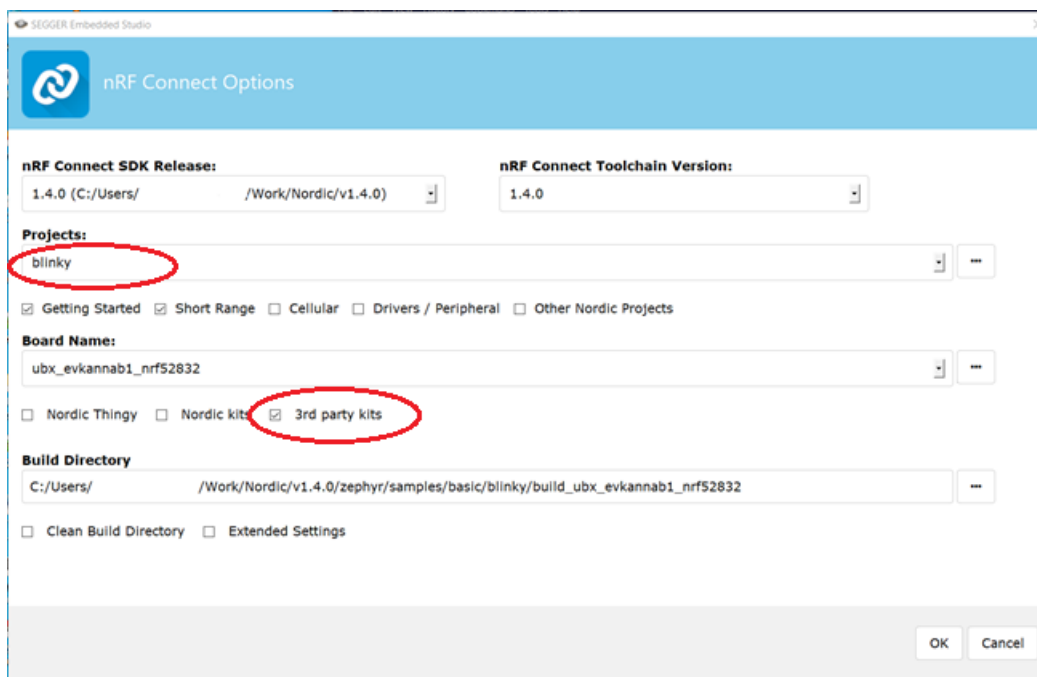

Figure 7 Opening blinky sample for the ANNA-B1 EVK
To build the blinky sample using the nRF Connect SDK, open the sample shown in Figure 7. You can then build and flash it from within Segger Studio.
2. `PinNames.h` should declare and define a couple of enumerations to configure the custom pin mapping. Figure 6 and Figure 7 show the contents of the `PinNames.h` file for EVK-ANNA-B112.